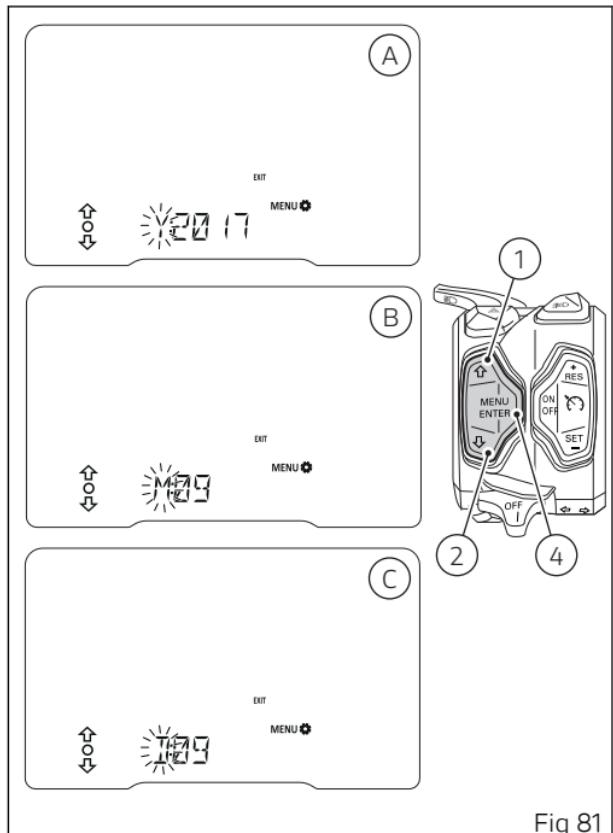

Fig 81
Select "Y" option flashing (A, Fig 81), by pressing button (1) or (2).
Once you reach the value to be set, press button (4) and the set year will stop flashing, while "Y" will be again flashing (A, Fig 81).
Select "M" option flashing (B, Fig 81), by pressing button (1) or (2).
Once you reach the value to be set, press button (4) and the set month will stop flashing, while "M" will be again flashing (B, Fig 81).
Select "D" option flashing (C, Fig 81), by pressing button (1) or (2).
Once you reach the value to be set, press button (4) and the set day will stop flashing, while "D" will be again flashing (C, Fig 81).